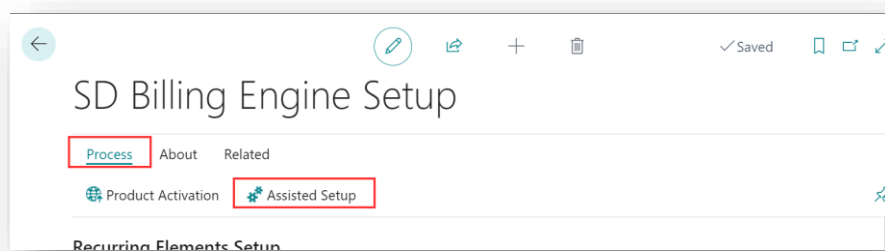

Figure 6-1
1. From the action bar choose the **Process** group, and then **Assisted Setup** (*Figure 6-1*).